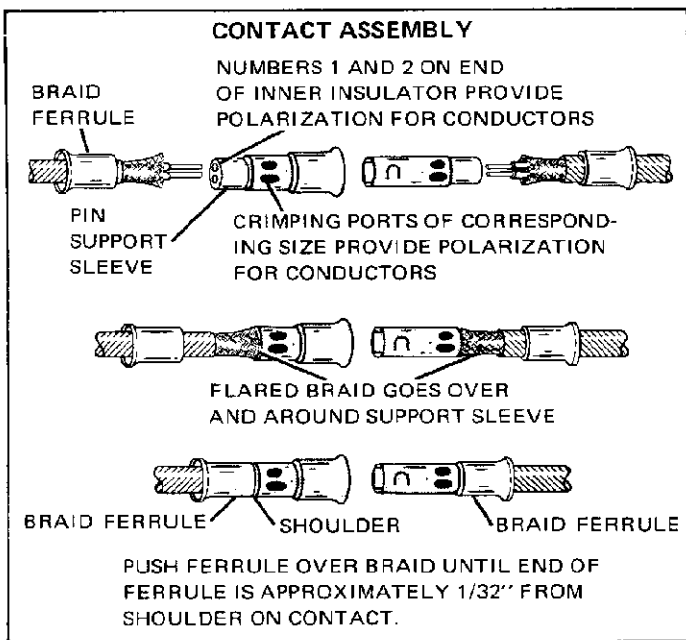

Figure 3
- Hold cable and rotate conductors to flare braid as shown in Figure 3.
- Insert conductors into contact wire barrel as far as they will go. Braid passes over and around support sleeve on contact. See Figure 3.
NOTE: Contacts have numbers 1 and 2 formed on ends of inner insulator. This feature permits polarization of conductors. Wire barrel crimping ports of corresponding size can also be used for this purpose. See Figure 3.
- Slide braid ferrule forward and over braid until ferrule is even with shoulder on contact. See Figure 3.